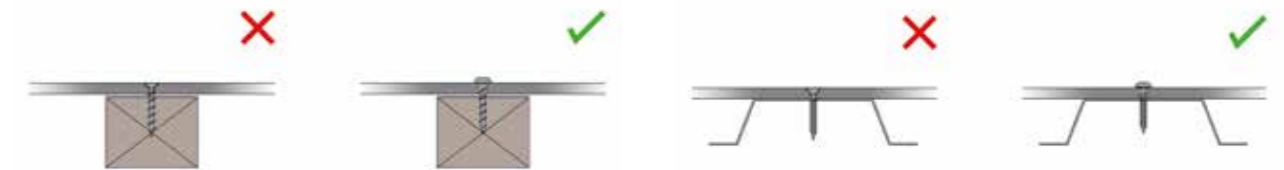

fig.27 – Recommended screws
- Countersunk screws should not be used (see fig. 27)